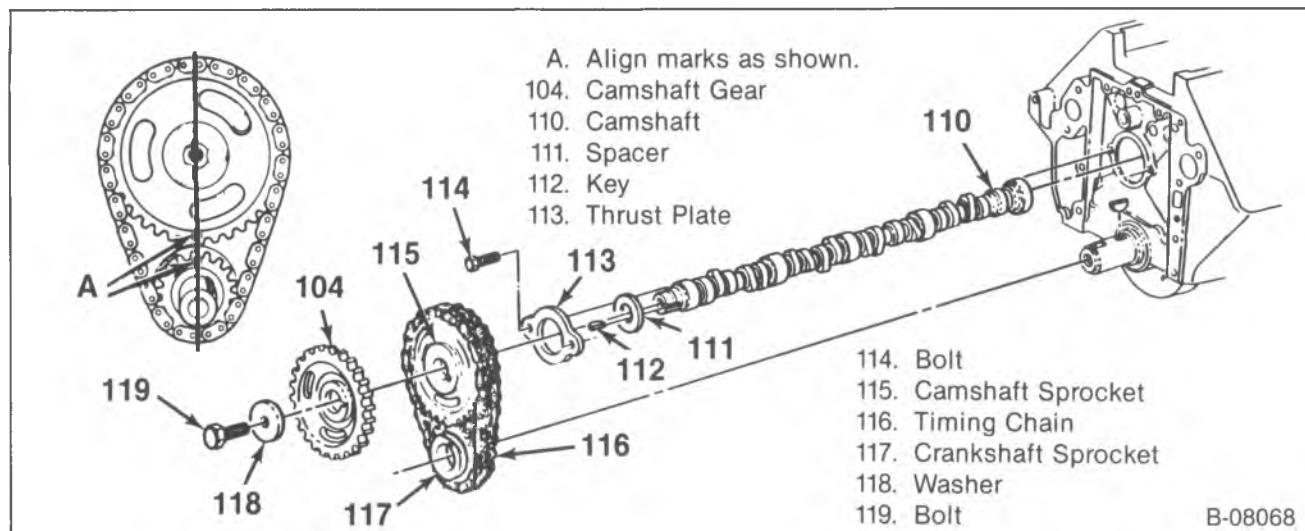

Figure 38—Camshaft and Components
Install or Connect (Figure 38)
- Align the timing marks (figure 38).
- 3. Camshaft gear (104), washer (118) and bolts (119).